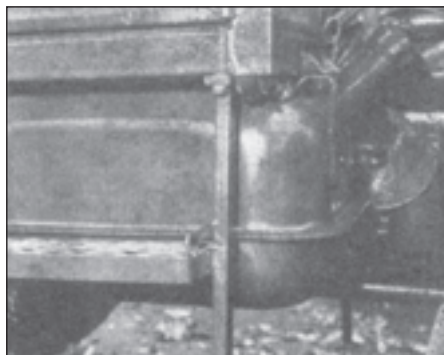

Fig. 147
- 55 litres for tractors Z 6211 to Z 5245 (Fig. 147)
- 55 litres for tractors Z 6211 to Z 7245 HORAL, Z 7711 and Z 7745 (Fig. 147)